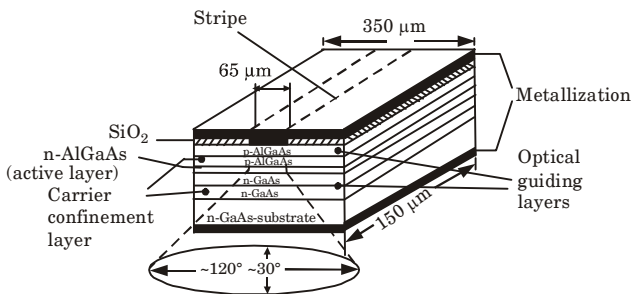

Fig. 3.4.4. Schematic illustration of the structure of a stripes geometry DH AlGaAs edge emitting LED.
- The edge emitter depicted in Fig. 3.4.4 consists of active junction region, which is the source of incoherent light and two guiding layers.